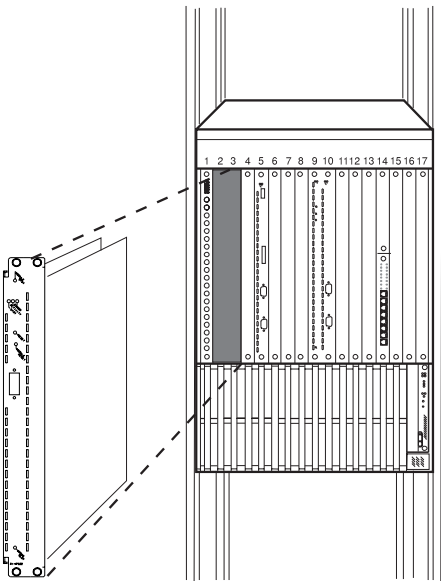
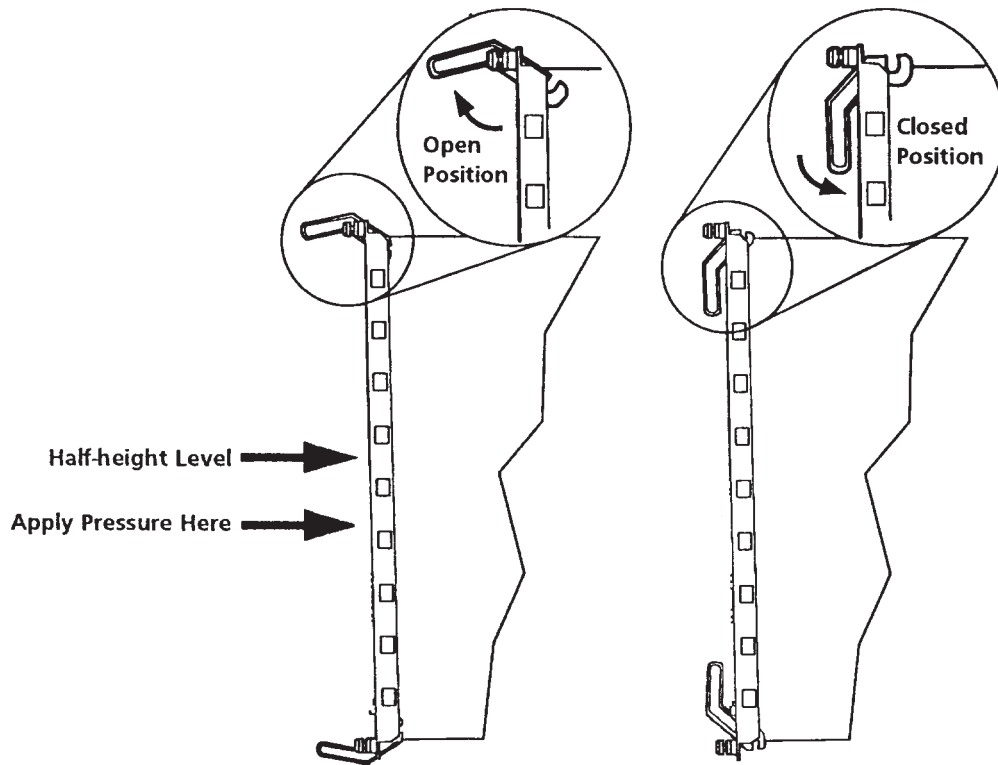

Figure 4. Installing the Module in an 8260 Hub
Figure 5. Module Ejectors
- **3** Insert the 622 Mbps module into the two selected slots as shown in Figure 4, matching the top and bottom board guides as you slide the module cleanly into place (by pressing evenly on the top and bottom of the faceplate). Do not attempt to push the module all the way into the hub until you have verified that both module ejectors are OPEN (see Figure 5 on page 23.)